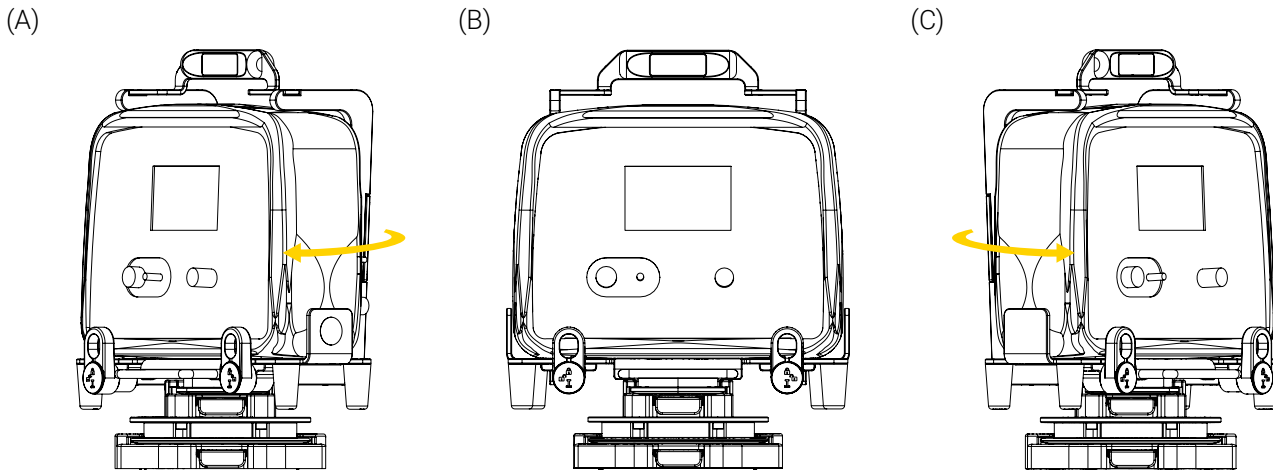

Figure 16: Rotating the mounting bracket
6. Turn the mounting bracket up to 360° clockwise or counterclockwise to the desired position (Figure 16).